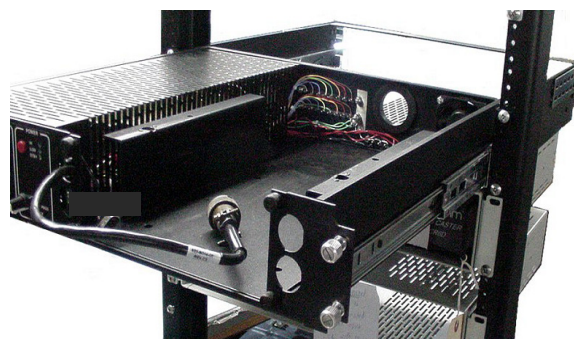

Figure 3-3: Control Drawer Mounted in Rail Assembly
3.2.3 Slide the Control Drawer into the Rail Assembly until you hear each side “click” (Refer to Figure 3-3).